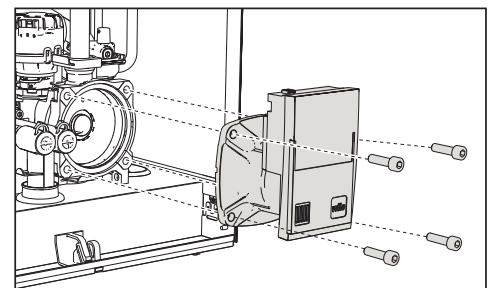

fig. 39
- Unscrew and remove the circulating pump motor assembly (fig. 39)